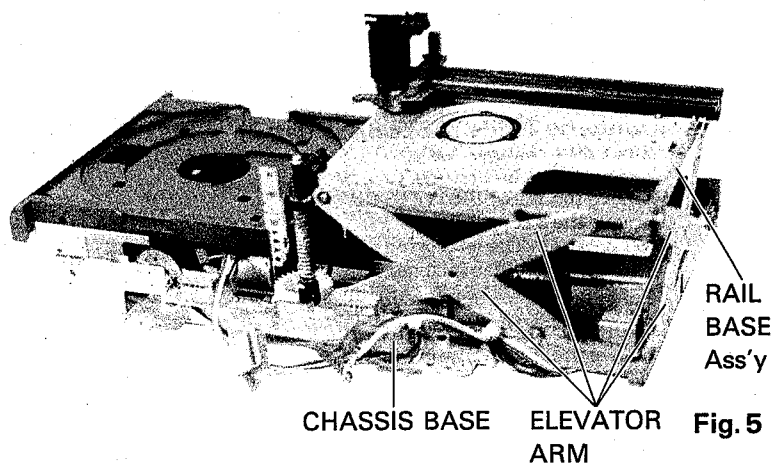

Fig. 5
(7) Removing the LIFTER UNIT Ass'y (Fig.5)